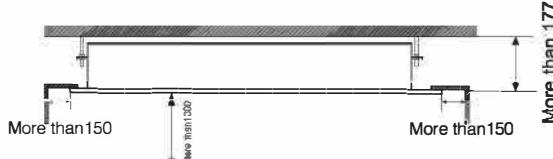

Figure 1
- Where a space sufficient for installation and service can be ensured. (**Refer to Figures 1 and 2**)